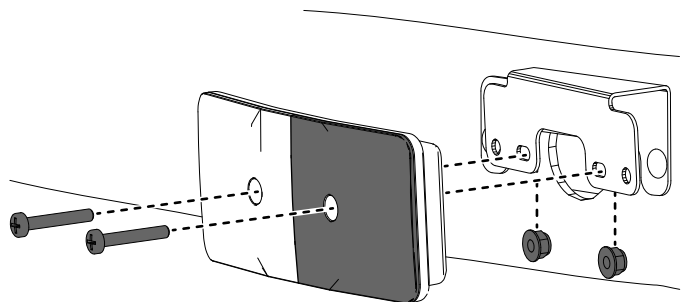

Figure 24
4. Install the lights to the brackets using the hardware removed in step 1 (Figure 24).